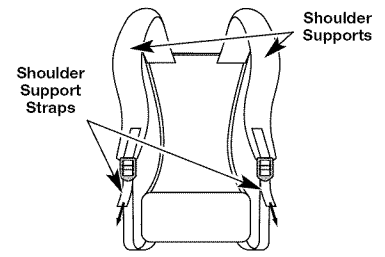

Fig. 12
2. Pull the shoulder support straps down to tighten the shoulder supports (Fig. 12).